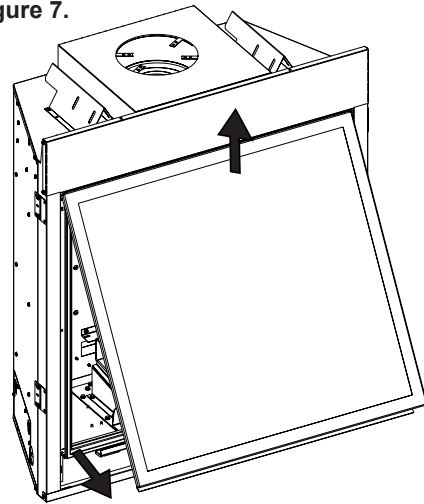

Figure 7
3. Disengage glass frame by pulling in upward swinging position. Place glass frame aside in a safe and out-of-the-way location. **See Figure 7.**
21. Reinstall the glass frame removed in step 3. **See Figure 7.**